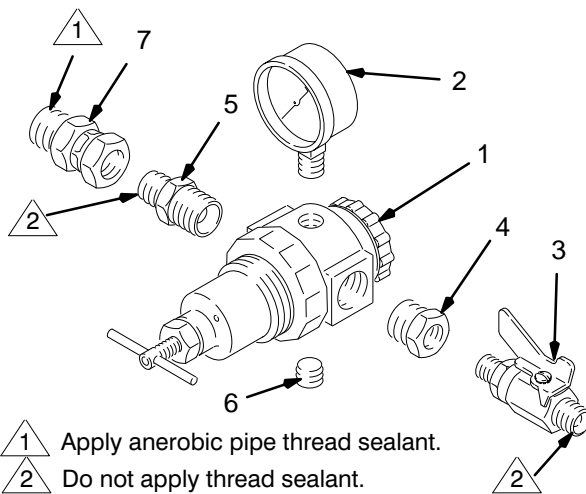

Fig. 1
General (See Fig. 1)
2. Remove the air inlet manifold pipe plug (11).
3. See Fig. 1. Apply anerobic pipe thread sealant to the male threads of the adapter (7) and install into the manifold (A).
4. Connect the regulator assembly (B) to the swivel nut of the adapter (7).
5. Connect gun air hose to 1/4 npt(m) ball valve (3).